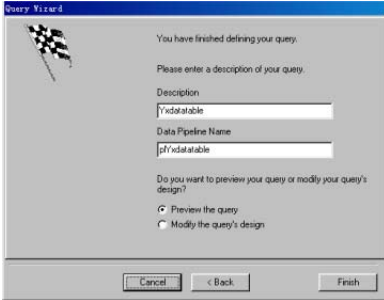

Fig. 8.11
2.8 Click **“Finish”**, as in Fig. 8.11. Then the listing table of the database that has been set will be displayed, as in Fig. 8.12.